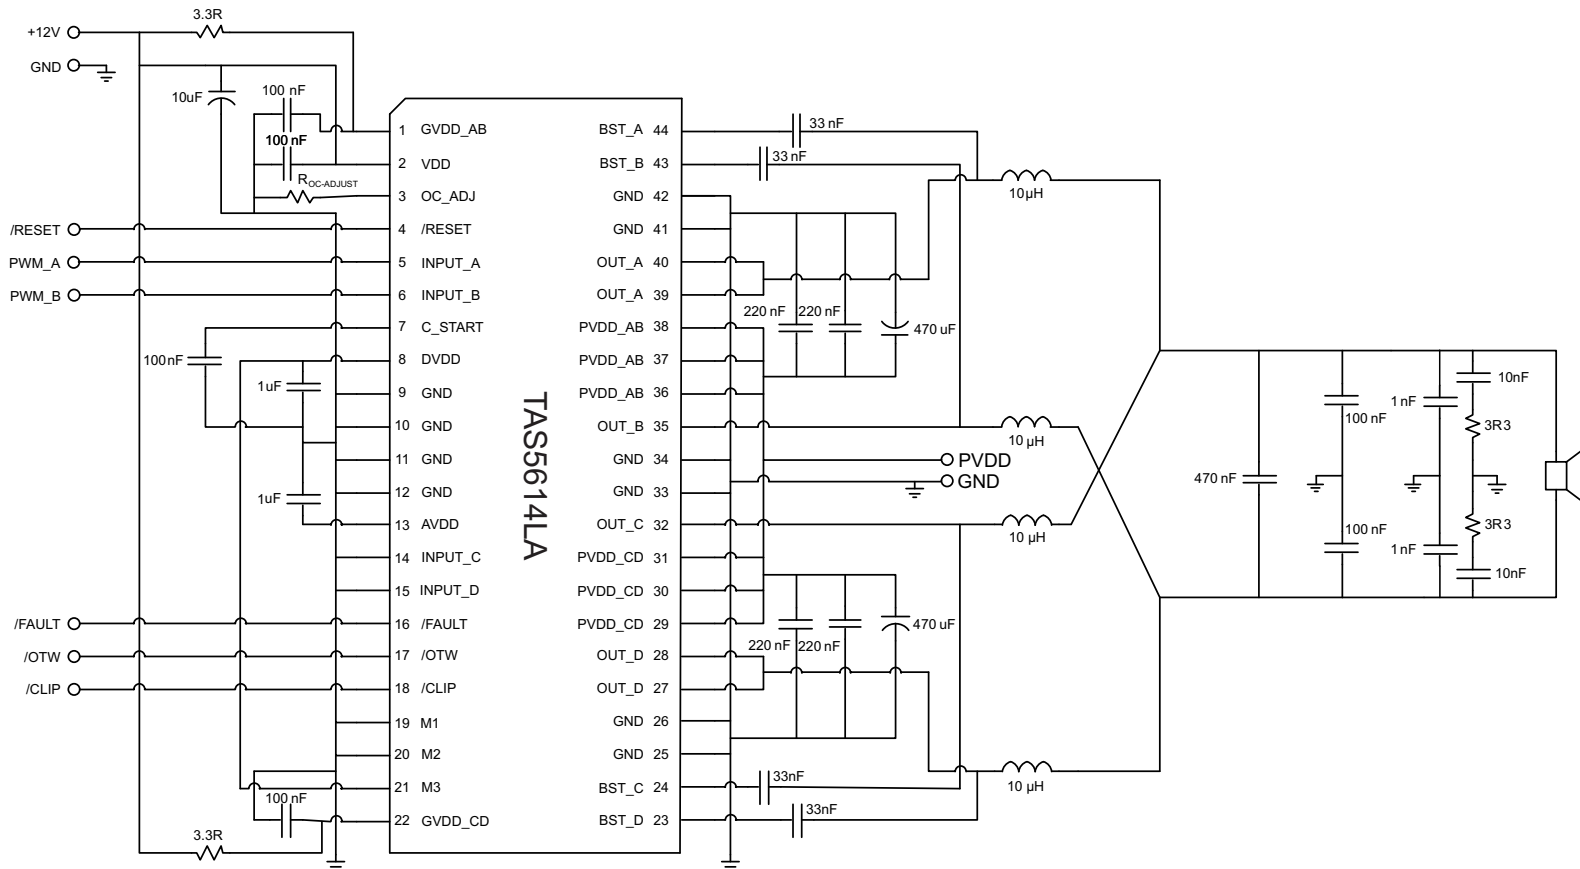

Figure 22. Typical Differential (2N) PBTB Application With AD Modulation Filter
See Figure 22 for application schematic. In this application, one differential PWM input is used with AD modulation from the PWM modulator such as the TAS5558. AD modulation scheme is defined as PWM(+) is opposite polarity from PWM(-). The output PBTL configuration is often used to drive lower impedance load such as a subwoofer.
- Pins 27, 28, 32, 35, 39, 40 - Output pins from half-bridges A, B, C, and D. Connect appropriate bootstrap capacitors and differential LC filter as shown in Figure 22.
- Pins 29, 30, 31, 36, 37, 38 - Power supply pins to half-bridges A, B, C, and D. A and B form a full-bridge and C and D form another full-bridge. A 470-μF bulk cap is recommended for each full-bridge power pins. Two 0.22-μF decoupling capacitors are placed on each full-bridge power pins. See Figure 22 for details.